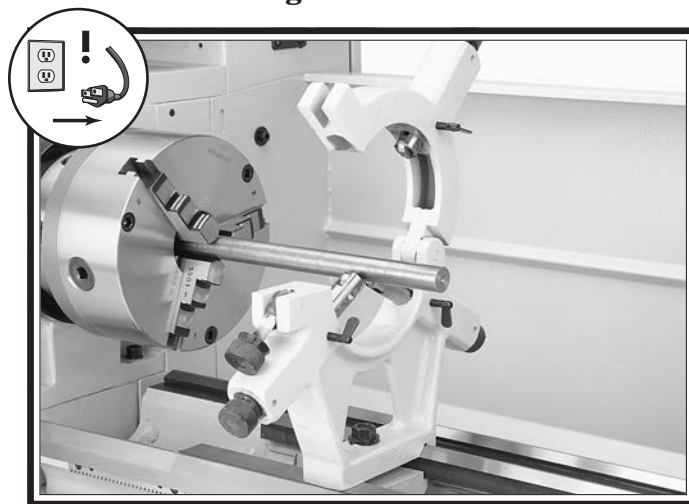

Figure 62. Workpiece mounted in the steady rest.
4. Loosen the clamp knob that secures the two halves of the rest and open the top portion, as shown in **Figure 62**.
6. Use the finger adjustment knobs to position the bottom two finger rollers against the workpiece, as shown in the example of **Figure 62**.